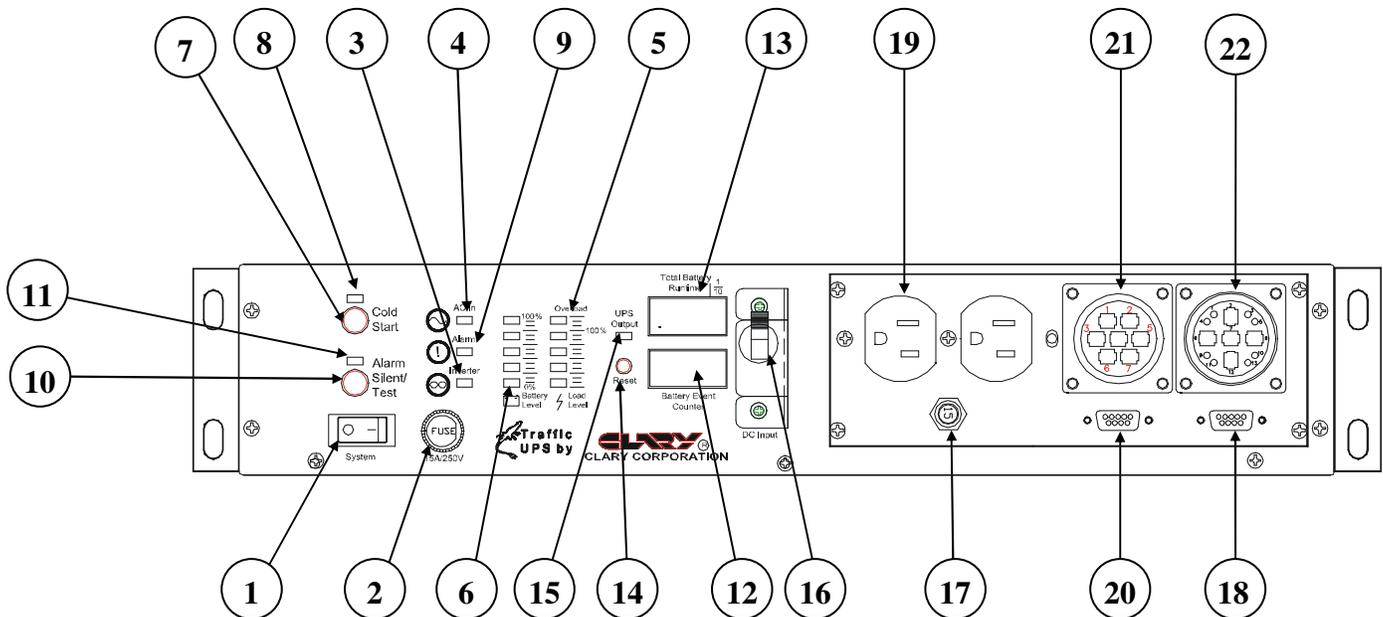

Figure 1: FRONT PANEL VIEW
Figure 1 is the front view of the model SP1000SN. Model SP1000SR is identical in operation; however, items 17 through 22 have been repositioned to the rear panel.